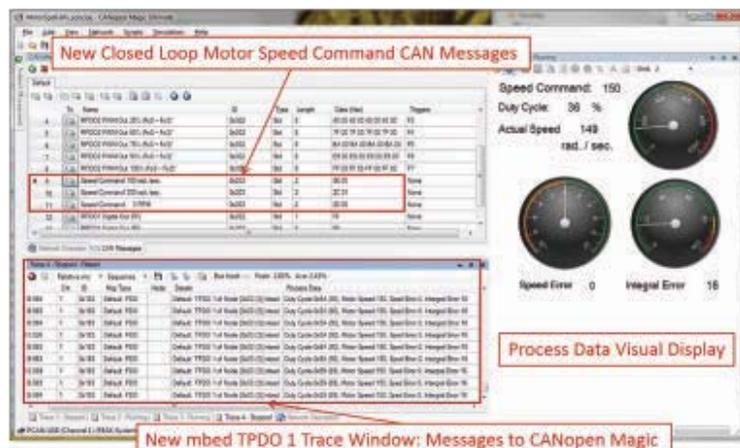

FIGURE 8 CANopen Magic PI Motor Closed-Loop Control GUI.
3. Red on blue competitions between CANopen network managers and CAN intruders. A sample CANopen Magic PI motor closed-loop control GUI screen shot is included as **Figure 8**.